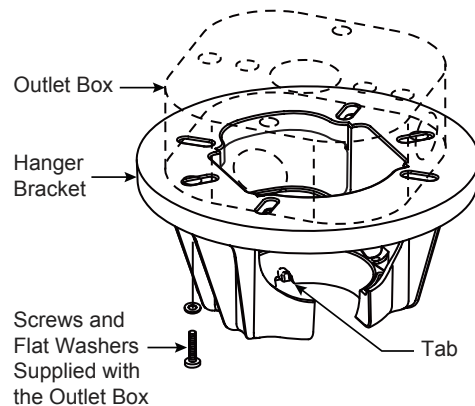
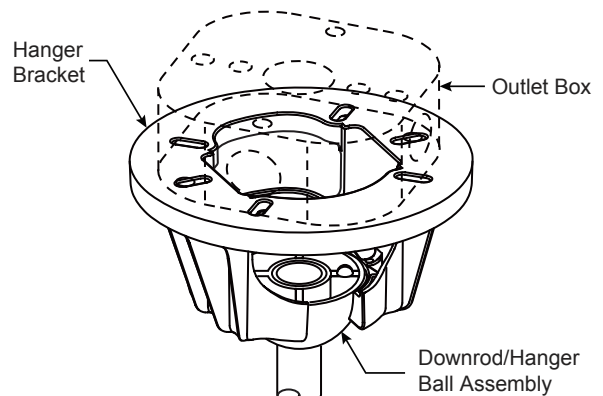

Figure 3
Figure 4
Deep box with brace (Figure 3)
- ☐ 3. Loosen the two setscrews in the downrod support. Align the clevis pin holes in the downrod with the holes in the downrod support. Install the clevis pin and secure with the hairpin clip. (Figure 3) Be sure to push the straight leg of the hairpin clip through the hole near the end of the clevis pin until the curved portion of the hairpin clip snaps around the clevis pin. The hairpin clip must be properly installed to prevent the clevis pin from working loose. Pull on the downrod to make sure the clevis pin is properly installed.
- ☐ 4. Route wires through motor coupling cover and canopy on fan shown with open side facing up. (Figure 3)
- ☐ 1. Securely attach the hanger bracket to the outlet box using the outlet box screws and washers supplied with the outlet box. (Figure 3)
NOTE: Outlet box screws pass through slotted holes of the hanger bracket. (Figure 3)
- ☐ 3. Carefully lift the fan and seat the downrod/hanger ball assembly onto the hanger bracket that was just attached to the outlet box. (Figure 4) Be sure the groove in the ball is lined up with tab on the hanger bracket. (Figure 3)
- ☐ 7. Disassemble the switch cup housing/adapter assembly by removing three screws. (Figure 4)